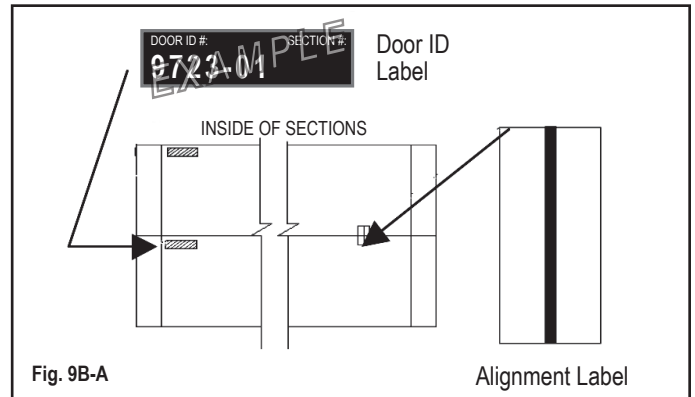

Fig. 9B-A
- Door sections are labeled on the inside upper left hand corner of the section (Fig. 9B-A).